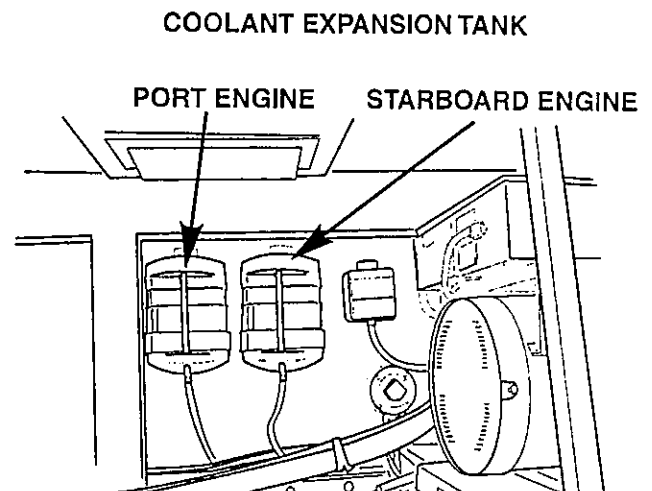

Figure 5-3 Checking Engine Coolant Level
7. See Figure 5-3. Check that the coolant level in the expansion tank is at the "FULL" mark.